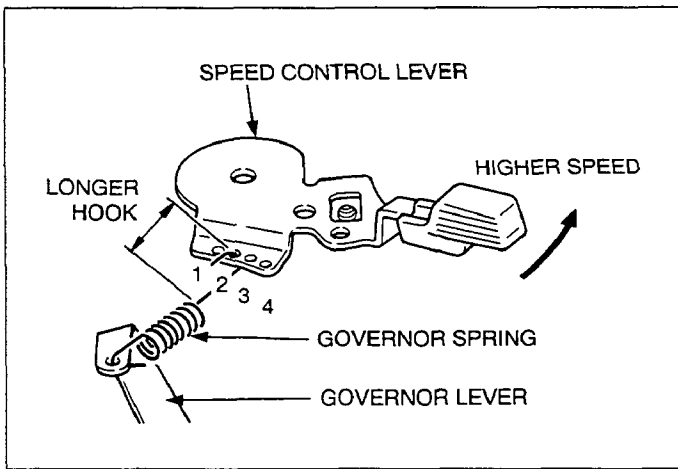

Fig. 5-42
- (3) Connect the speed control lever and the governor lever with the governor spring. The governor spring should be hooked to the number 2 hole on the speed control lever for the regular specifications. Refer to the illustrations below. (See Fig. 5-42.)
- (4) Turn the speed control lever all the way toward the high speed position and make sure that the throttle valve in the carburetor is at the wide open position.